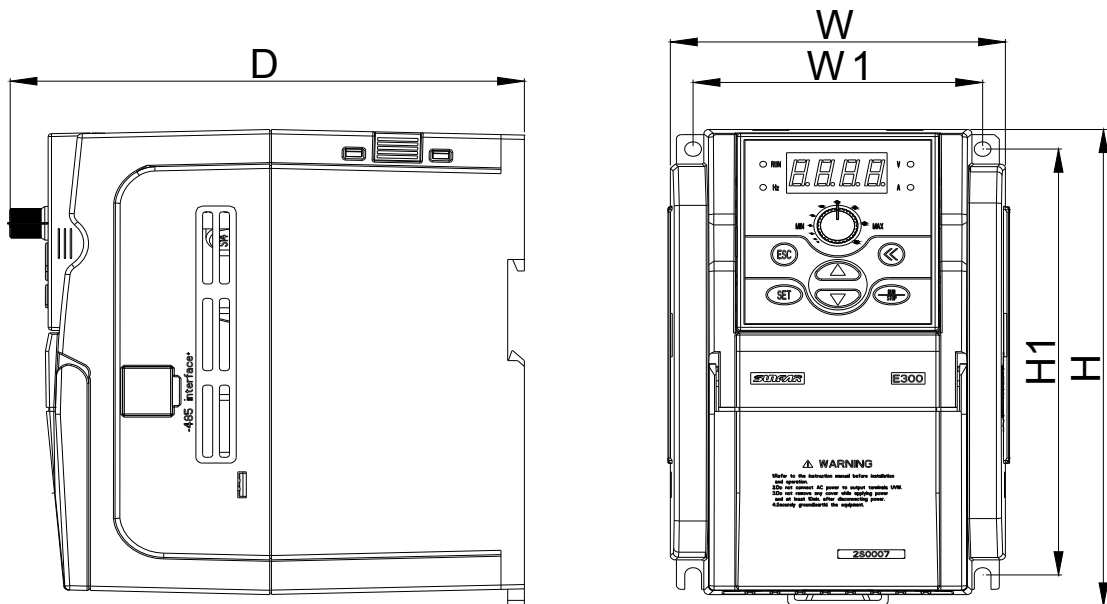

Fig 2-2-B Inverter installation dimension type □
Suitable model: E300-2S0007(B)~2S0022(B) / E300-4T0007(B)~4T00037(B) as fig 2-2-B.